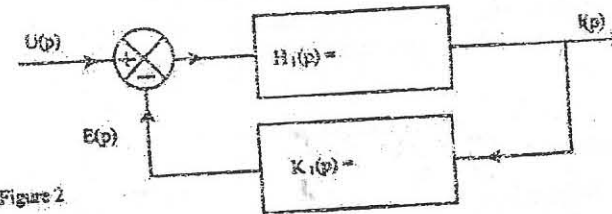

Figure 2
1.2.2. Deduce from the preceding question, the expressions of transmittances $H_1(p)$ and $K_1(p)$ of figures 2, by registering them in the corresponding blocks.